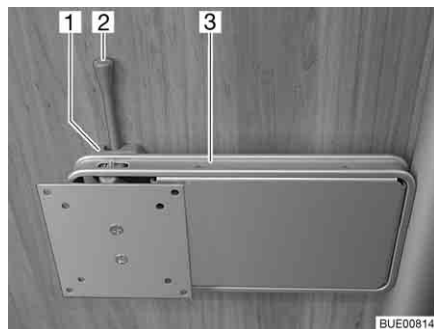

Fig. 87 Holder on the column
- Push the release lever (Fig. 87,2) to the side and turn the holder (Fig. 87,3) with the flat screen to the desired position.
- Turn flat screen back until the holder (Fig. 87,3) engages in the lock (Fig. 87,1).